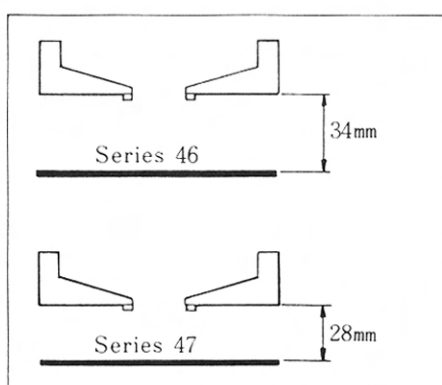
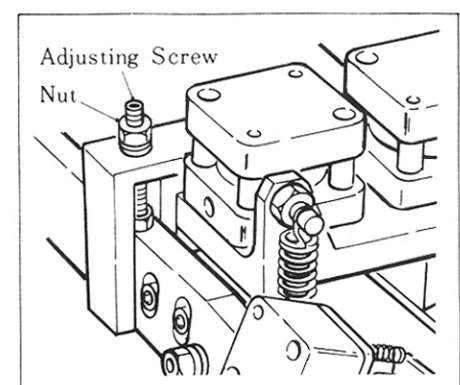

Figure 11
Figure 12
- Series 46:** The clamp height may be approximately 34mm (see Figure 11) from the bedplate to the bottom of the clamp foot. The clamp height adjusting screws are at the rear of the clamp arms.
Series 47: The clamp height may be approximately 28mm (see Figure 11); caution must be exercised to avoid raising the clamps too high which would cause interference between the flap clamps and the underside of the machine head (see Figure 12).